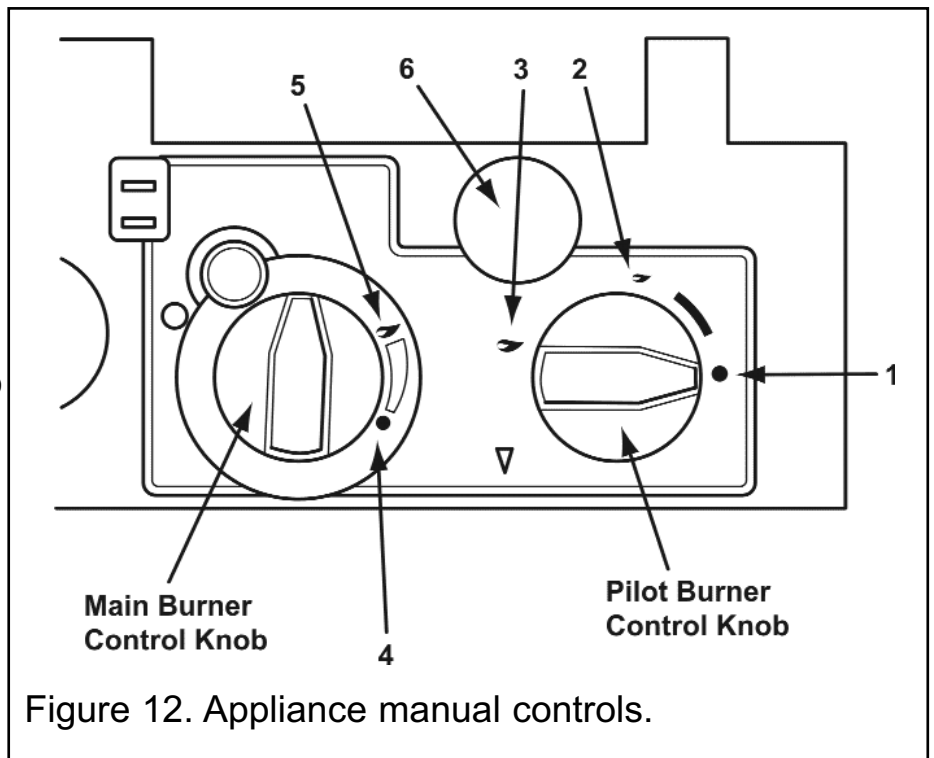

Figure 12. Appliance manual controls.
1. Ensure that the pilot burner control knob is in the OFF position (Number 1 in figure 12).
2. Depress the pilot burner control knob and turn anti-clockwise to the ignition position (Number 2 in figure 12) to activate the piezo ignition system. A 'click' will be heard
1. Once the pilot light is established, light the main burner by turning the pilot burner control knob anti-clockwise to the "main burner on" position (Number 3 in figure 12), and by then turning the main burner control knob to the high position (Number 5 in figure 12).
2. Check the full range of heat settings by turning the main burner control knob slowly between the high position and the low position (Number 4 in figure 12).
Turn the main burner control knob fully clockwise. Alternatively turn the pilot burner control knob clockwise to the ignition position (Number 2 in figure 12).
Rotate the pilot/burner control knob clockwise to position 1, as shown in figure 12.
3. Turn the fire off by rotating the pilot burner control knob to the OFF position (Number 1 in figure 12).